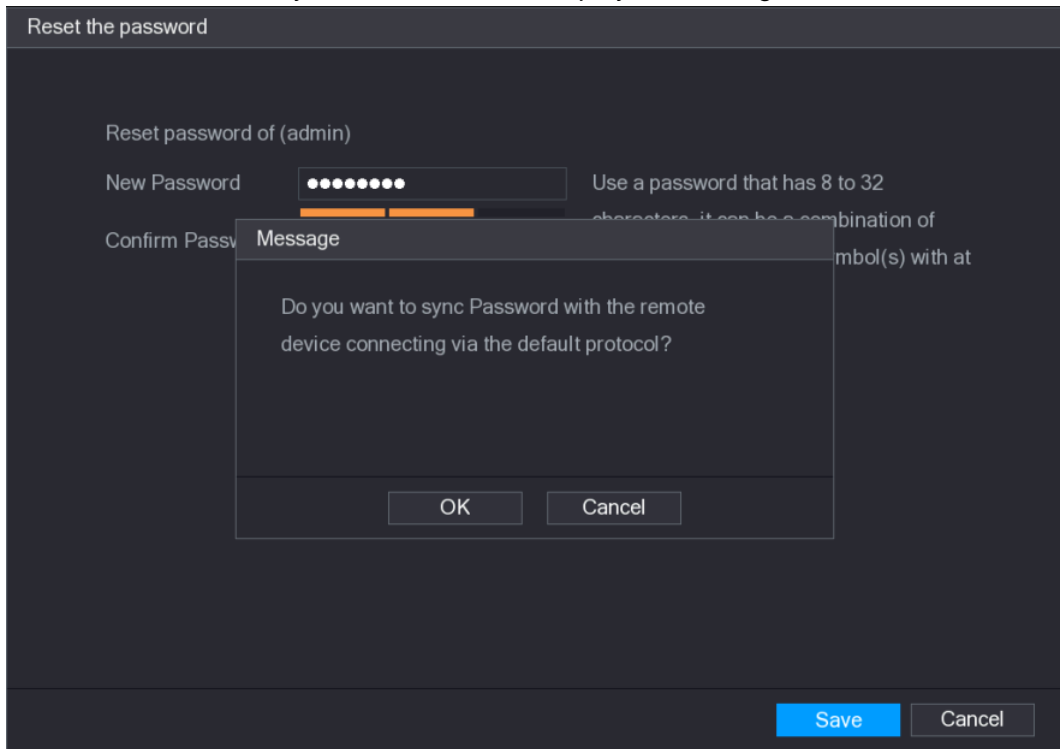

Figure 5-9
A pop-up message is displayed asking if you want to sync the password with the remote devices, see Figure 5-9.
- Click **OK**, the Sync Info interface is displayed. See Figure 5-9.